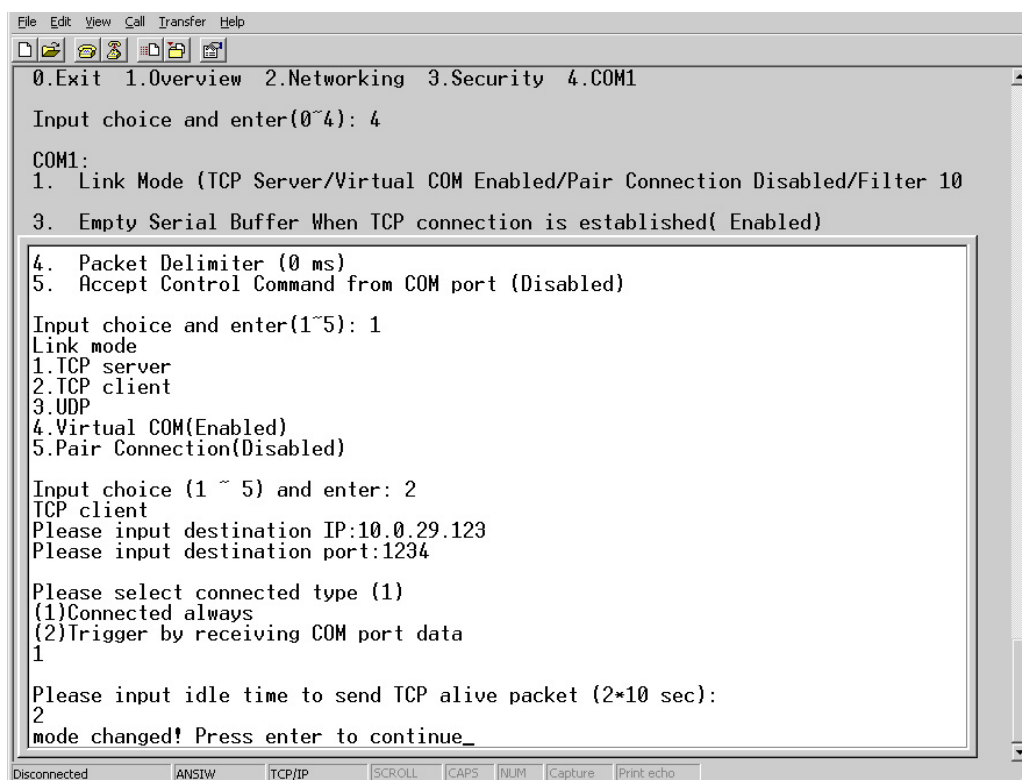

Figure 3.11 Link Mode-TCP client setup
- ➔ Type **2** in the “**Input choice(1~5) and enter :** ”(Figure 3.11)